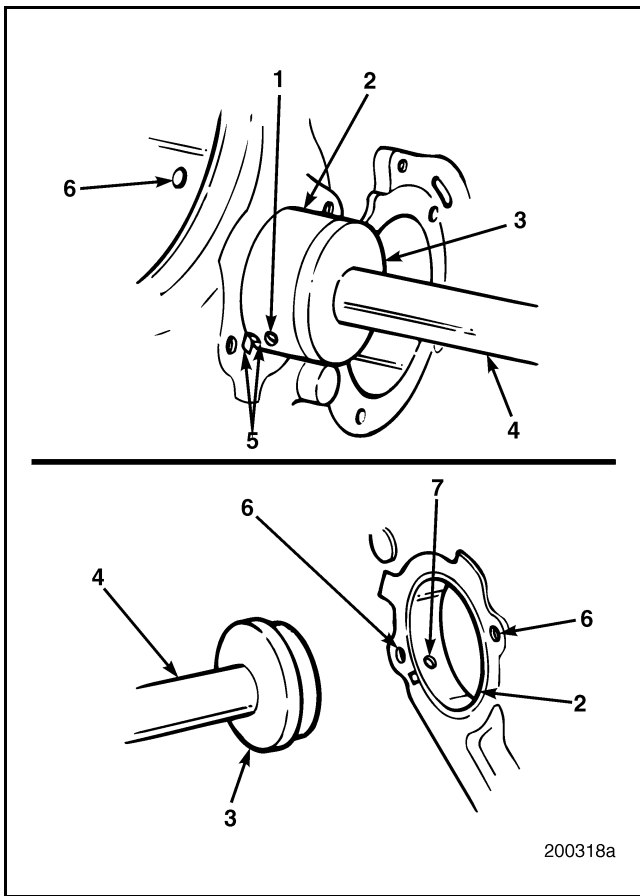

Figure 138 — Camshaft Bushing Installation
2. Using a dark-colored felt-tip marker, mark the block and bushing with a line to facilitate correct alignment at installation. Refer to Figure 138.